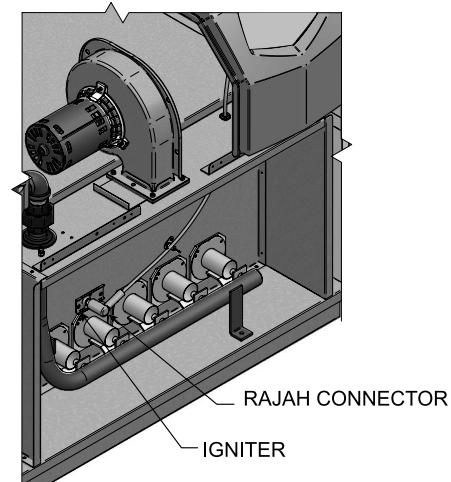

Figure 2-5_Igniter Replacement
- d) Disconnect the rajah connector from the igniter (FIG. 2-5).